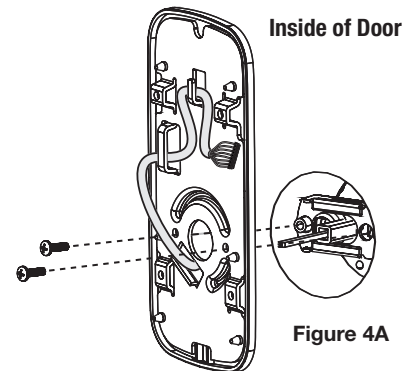

Figure 4A
- Holding the outside escutcheon flush to the door, position the inside mounting plate by routing the cable/connector through the mounting plate's 1/2" rectangular hole below center hole (Fig. 4A).
- Finish routing the cable and connector through the left upper slot, then behind center rib as shown in Fig. 4A.